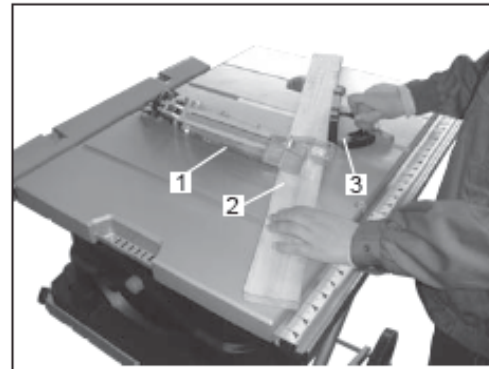

fig.47
- Adjust the blade (1) to the desired angle, and then tighten the blade bevel lock knob.
- Tighten the miter lock handle (3) at 90° .
- Hold the workpiece (2) firmly against the face of the miter gauge throughout the cutting operation.
**0° ~45° BLADE BEVEL & 0° ~45° MITER ANGLE (FIG.47)**